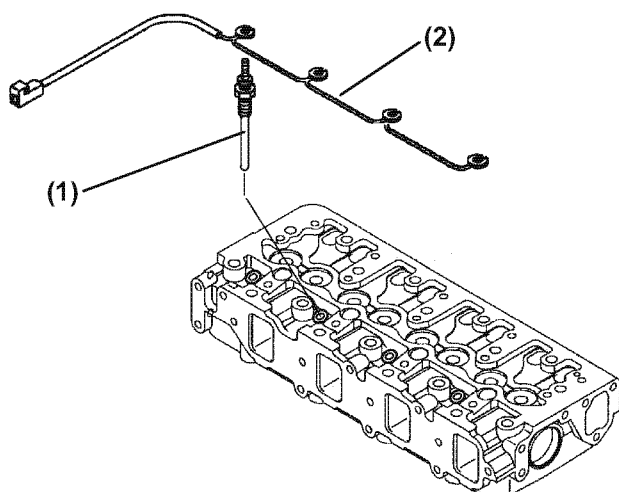

Figure 6-6
1. Remove the glow plug harness (Figure 6-6, (2)) from each glow plug (Figure 6-6, (1)).